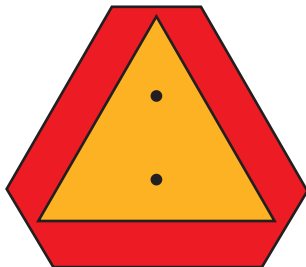

Figure 3-13: SMV Sign
10. Transport during daylight hours when ever possible. Always use flashing warning lights, except where such use is prohibited by law. Make sure lights, reflectors and SMV emblem are clearly visible and operating. Remove any obstructions such as dirt, mud, stalks or residue that restricts view before transporting. **See Figure 3-13.**